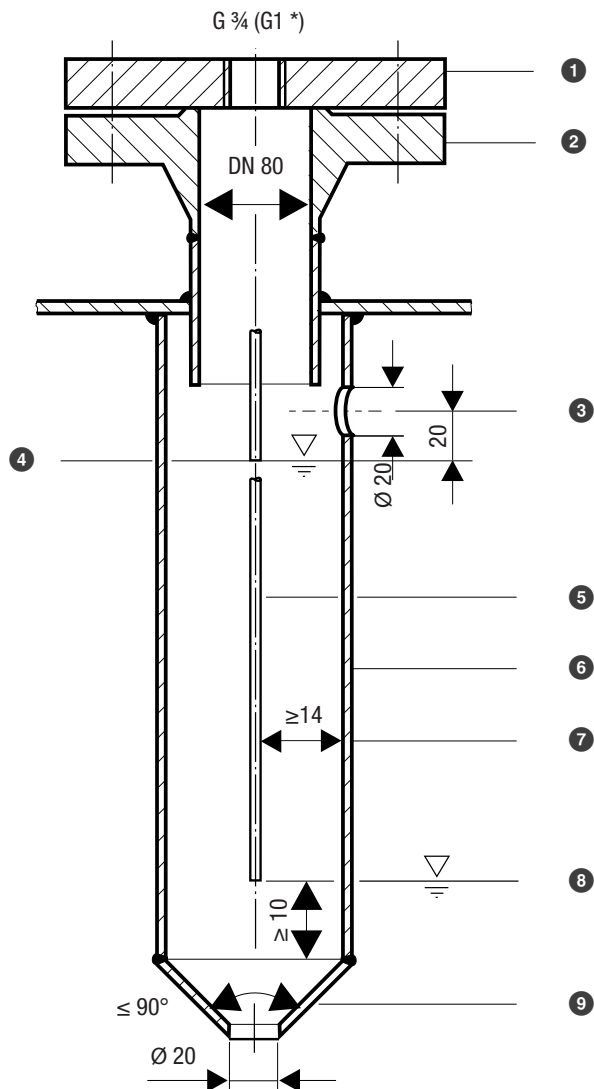
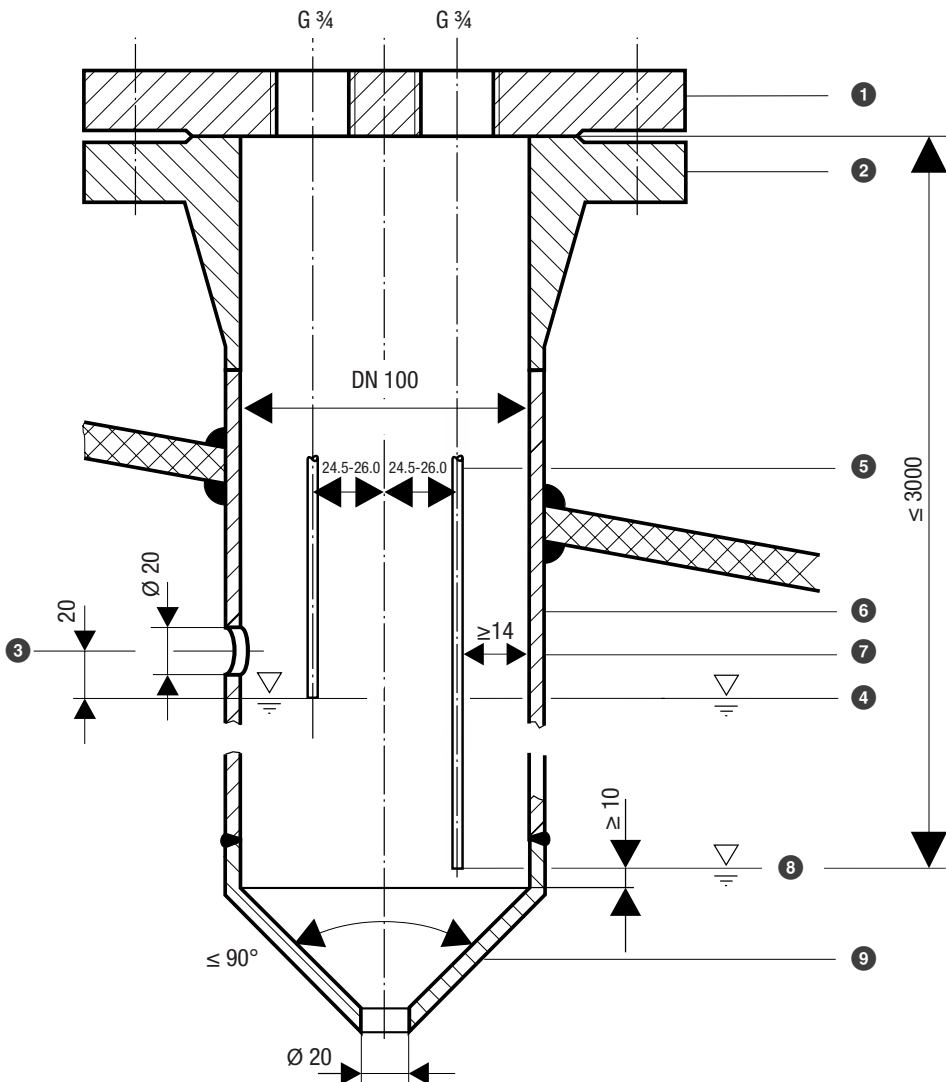
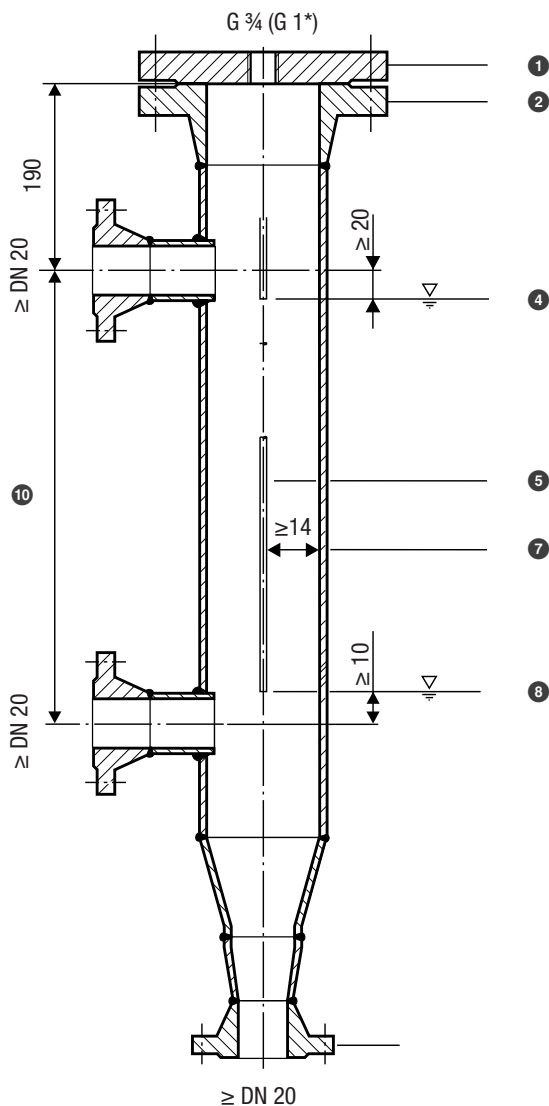

Fig. 17
Fig. 18
Fig. 19
- Pay attention to the minimum clearances when installing the level electrode, see installation examples Fig. 17 to Fig. 19.
Installation example with dimensions, see Fig. 17, page 33
Installation example with dimensions, see Fig. 18, page 34
Key Fig. 17 to Fig. 19
- ❶ Fig. 17: Flange (PN 40, 63, 160, 320) EN 1092-1
- Fig. 18: Flange (PN 40, 63, 160) EN 1092-1
- Fig. 19: Flange (PN 40, 63, 60, 320) EN 1092-1
- ❷ Standpipe
- ❸ Pressure relief hole (locate as close to the boiler wall as possible!)
- ❹ High water (HW)
- ❺ Electrode rod, $d = 8 \text{ mm}$
- ❻ Fig. 17 (single electrode): Protective tube DN 80
- Fig. 18 (two electrodes): Protective tube DN 100
- ❼ Electrode spacing $\geq 14 \text{ mm}$ (air gaps and creepage paths)
- ❽ Low water (LW)
- ❾ Fig. 17 (single electrode): Reducer DIN 2616-2
- Fig. 18 (two electrodes): Reducer DIN 2616-2
- ❿ Fig. 19: Centre distance of standpipe